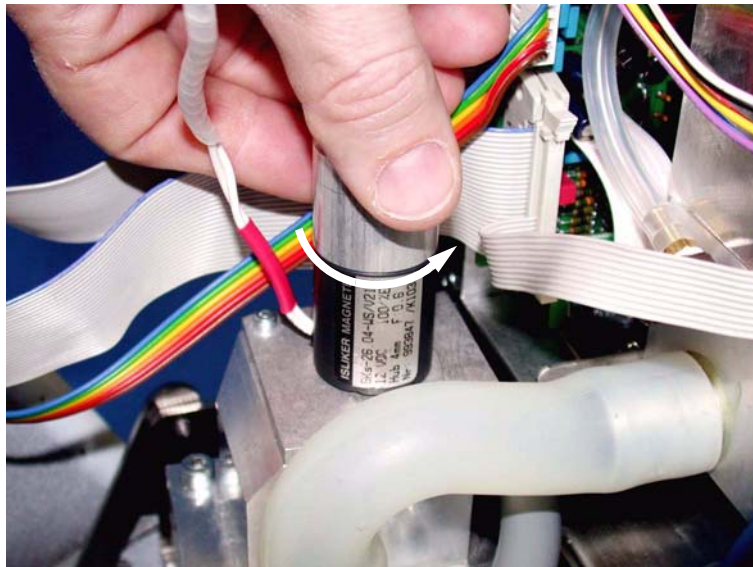

Figure 11-29. Unscrewing the ambient valve solenoid
5. Holding the cable above the solenoid, unscrew the solenoid from the safety valve block. (Figure 11-29.)